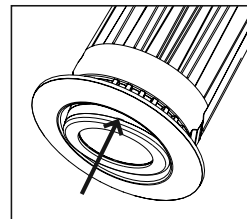

Figure 14
**Step 1.** Insert a small screwdriver into the slots between the gimbal face and body. Pry off the face. It may be necessary to pry in a few locations to pull the face evenly off. Optic will come free after the face is pulled off (Fig. 14).